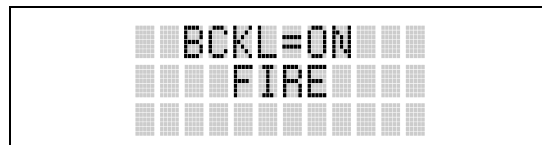

Figure 9-10: Backlight Menu Display
3. Press **M**. The backlight menu item is activated. Line one shows the active menu item and its current parameter setting. Line two shows the currently selected system or group name (see Figure 9-10).